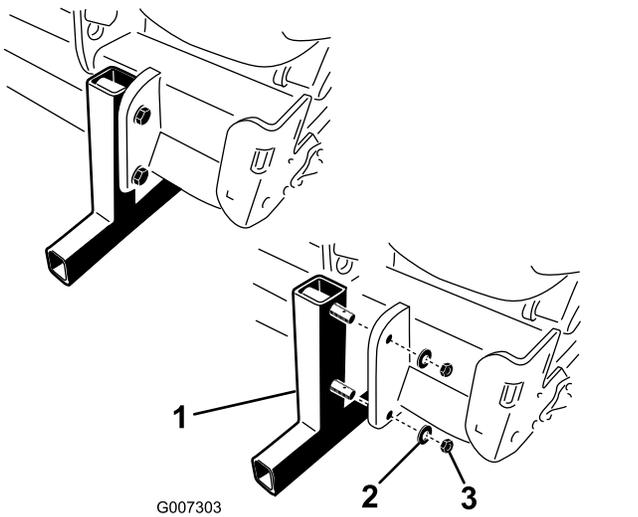

Figure 19
- Remove the nuts and the lock washers securing the storage stands to the aerator (Figure 19).
- Insert the lynch pins (included in loose parts) into the stand pins for storage (Figure 19).